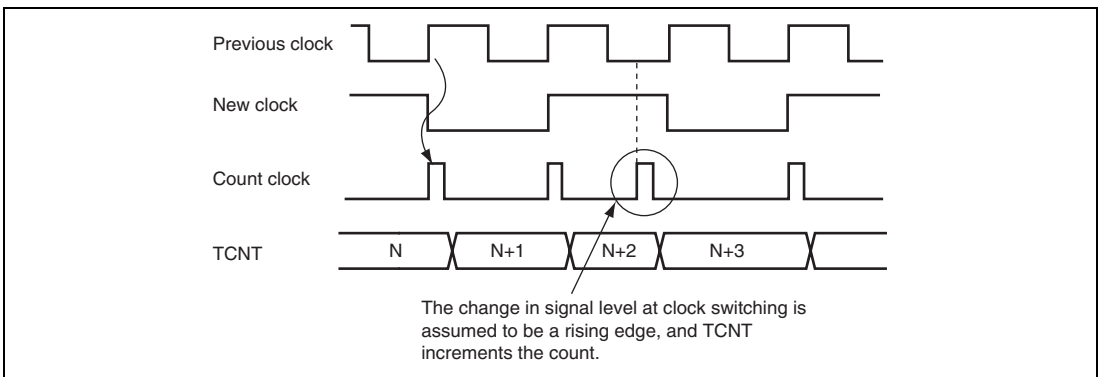

Figure 10.25 Internal Clock Switching and TCNT Operation
3. Depending on the timing, TCNT may be incremented by a switch between different internal clock sources. When TCNT is internally clocked, an increment pulse is generated from the rising edge of an internal clock signal, that is, the divided system clock (ϕ). Therefore, as shown in figure 10.25 the switch is from a low clock signal to a high clock signal, the switchover is seen as a rising edge, causing TCNT to increment.